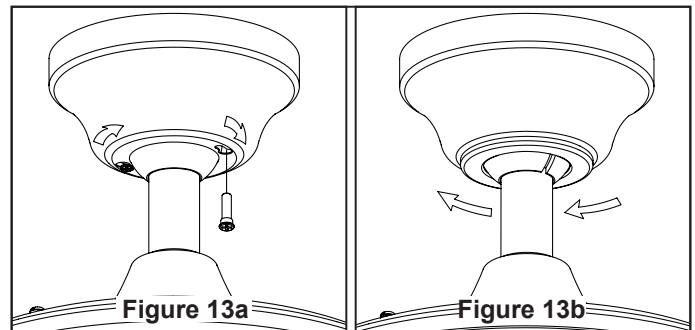

Figure 13a
1. Remove one of the two shoulder screws in the hanger bracket. Loosen the second shoulder screw without fully removing it. Assemble canopy by rotating key slot in canopy over shoulder screw in hanger bracket. Tighten shoulder screw. Fully assemble and tighten second shoulder screw that was previously removed. (Figure 13a)